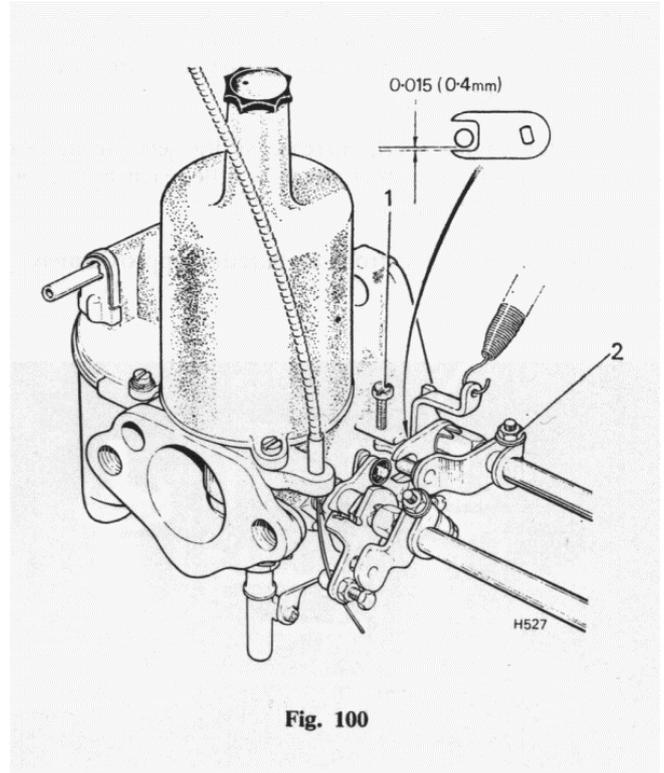

Fig. 100
Tuning Carburettors (Figs. 100 to 104)
Set the pins of the throttle interconnecting levers (2) 0.015" (0.4 mm.) from the lower edge of the forks (Fig. 100), ensuring that there is 312 (0.8 mm.) side play between the interconnecting levers and the throttle nuts.